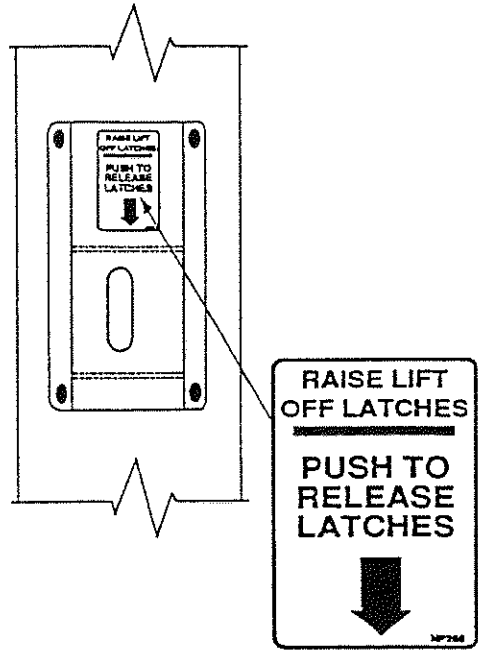

Fig. 23
**22. If latch release decal is not already installed, then install on right column (or power unit side) cover, Fig. 23.**